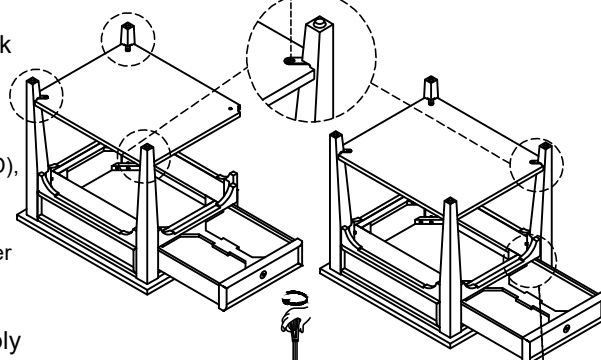

Figure 4
4. Attach the remaining leg to the assembly with Hex Nut (D), yellow Lock washer (E) and yellow Flat washer (F) for the top and with Bolt (A), black Lock Washer (B), Black Flat Washer (C) for the bottom. Tighten all bolts with Spanner Wrench (G) and Allen Wrench (H). (See Figure 4).